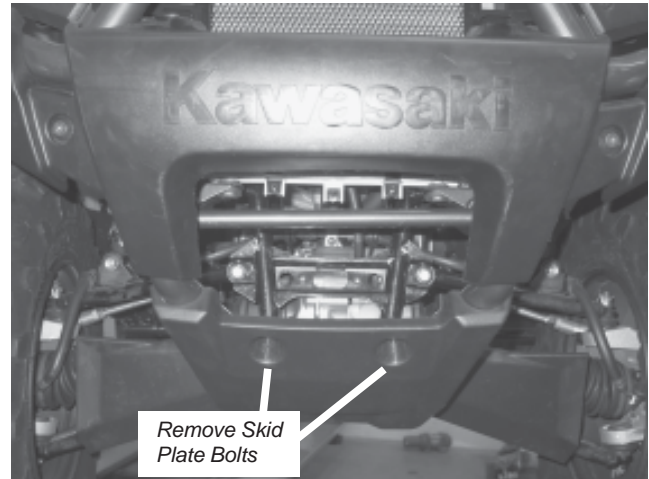

Figure 1 Loosen Front Skid Plate
1. Loosen the front bottom skid plate by removing the front two 6mm bolts, Figure 1. Keep the 6mm bolts for reinstallation of the skid plate. Skid plate will not be removed from vehicle, only will be rotated down. This will allow room for winch plate installation.